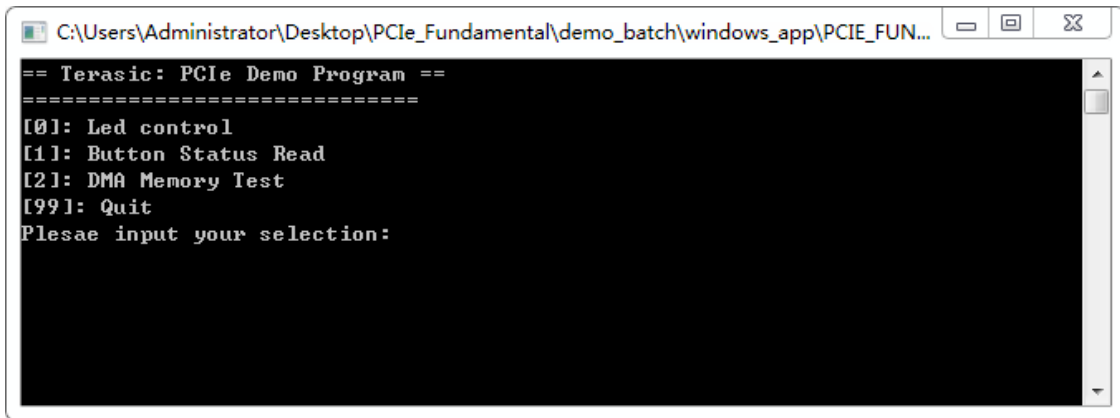

Figure 7-12 Screenshot of Program Menu
6. Goto windows_app folder, execute PCIE_FUNDMENTAL.exe. A menu will appear as shown in Figure 7-12.